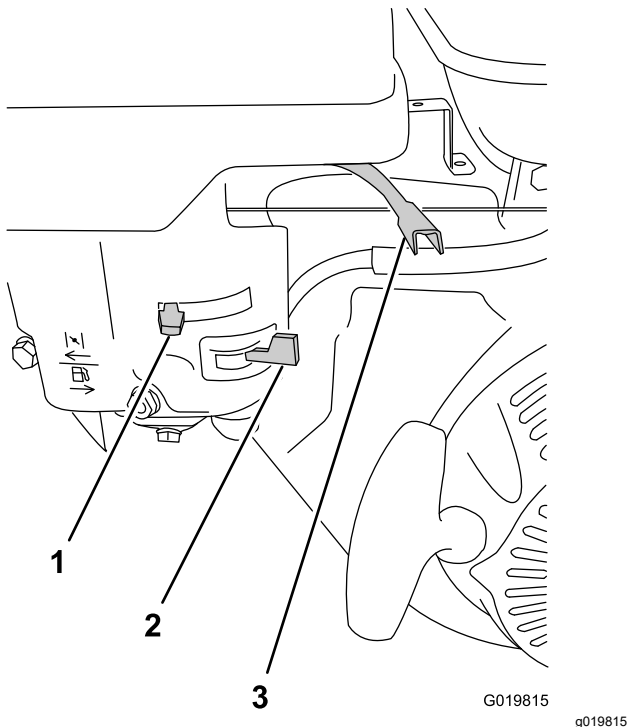

Figure 24
2. Move the fuel valve to the OPEN position, all the way to the right (Figure 24).
3. Move the choke lever to the ON position (Figure 24).